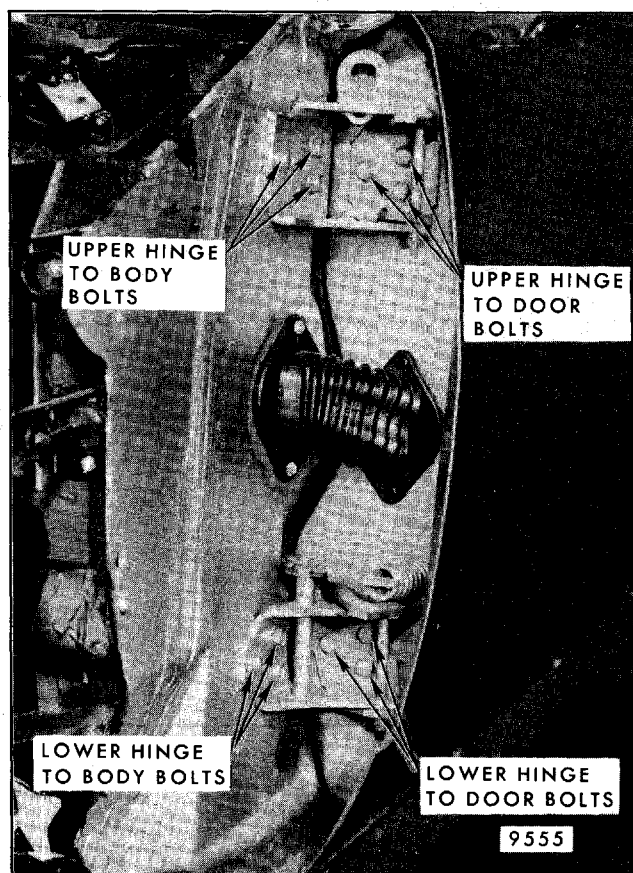

Fig. 5-86-Typical Front Door Bolt-On Hinge Attachment - All Except "H and X" Styles
3. With aid of a helper, support door in open position and remove upper and lower hinge to door hinge pillar attaching bolts (Fig. 5-86).
3. Support door in the full-open position and remove hinge to door and body hinge pillar attaching bolts (Fig. 5-86).